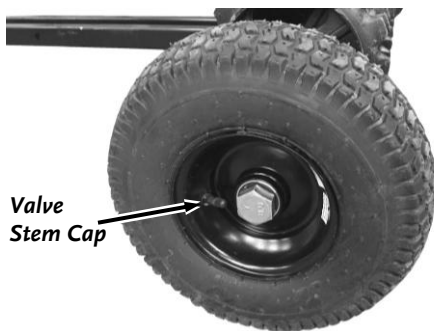

Figure 10
1. Remove the Valve Stem Protective Cap (**Figure 10**) and check the tire pressure with a Tire Pressure Gauge.